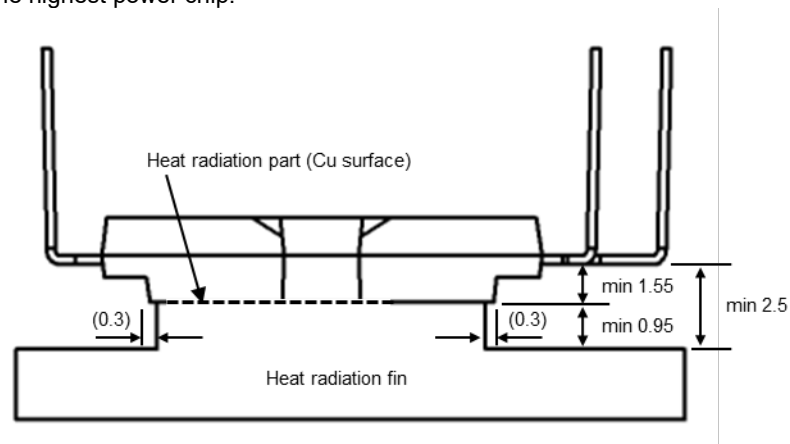

Fig.2-1-2 In the case of using convex fin (unit: mm)
- (1) V_{CC} The maximum voltage can be biased between P-N. A voltage suppressing circuit such as a brake circuit is necessary if P-N voltage exceeds this value.
- (2) $V_{CC(surge)}$ The maximum rating of P-N surge voltage in switching state. If P-N voltage exceeds this voltage, addition of a snubber circuit or cutting down parasitic wiring inductance is necessary to absorb the surge under this voltage.
- (3) V_{CES} The maximum sustained collector-emitter voltage of built-in IGBT and FWDi.
- (4) $\pm I_C$ The allowable current flowing into collect electrode (@ $T_C=25^\circ\text{C}$). Pulse width and period are limited due to junction temperature T_j .
- (5) T_j The maximum junction temperature rating is 150°C . But for safe operation, operating temperature range should be determined considering life time of power cycle and so on.
- (6) $V_{cc}(\text{prot})$ The maximum supply voltage for turning off IGBT safely in the case of an SC or OC fault. The power chip might be damaged if supply voltage exceeds this specification.
- (7) Isolation voltage Isolation voltage is the voltage between all shorted pins and copper surface of DIPIPM. The maximum rating of isolation voltage of SLIMDIP is 2000Vrms. But if such as convex shape heat radiation fin will be used for enlarging clearance between outer terminals and heat radiation fin (2.5mm or more is recommended), it is able to correspond isolation voltage 2500Vrms. See Fig.2-1-2.